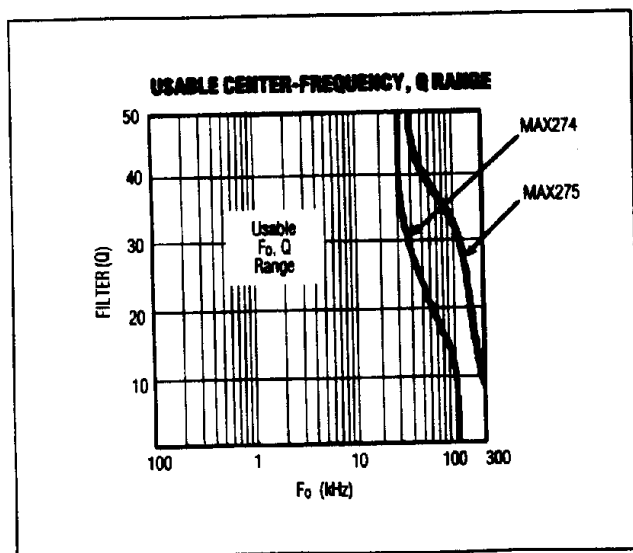

Figure 4. Usable F_o , Q Range. See Translating F_o/Q Pairs into Hardware (Resistor Selection).
1. Check all F_o/Q pairs for realizability. The MAX274/MAX275 have limits on which F_o/Q values can be implemented. These limits are bound by finite amplifier gain-bandwidth and amplifier load drive capability (which limit the highest frequency F_o /highest Q_s) as well as amplifier noise pickup and susceptibility to errors caused by stray capacitance (which sets a low-frequency limit on the poles). Refer to Figure 4 to be sure each F_o/Q pair is within the "realizable" portion of the graph. If filter Q_s are too high, reduce them by increasing the filter order (that is, increase the number of poles in the overall filter).
High-frequency F_o s (up to 400kHz) and high Q_s outside of Figure 4's limits are also realizable, but F_o and Q will deviate significantly from the ideal. Adjust resistor values by prototyping.